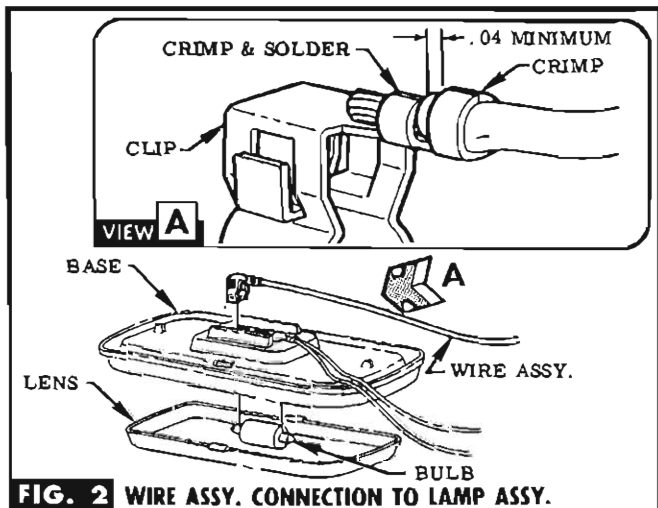

FIG. 2 WIRE ASSY. CONNECTION TO LAMP ASSY.
STEP 3 CRIMP & SOLDER BARE END OF WIRE TO CLIP. SEE VIEW A. REMOVE LENS FROM LAMP ASSY. & INSERT CLIP INTO LAMP BASE THEN INSTALL BULB & REPLACE LENS. SEE FIG. 2.